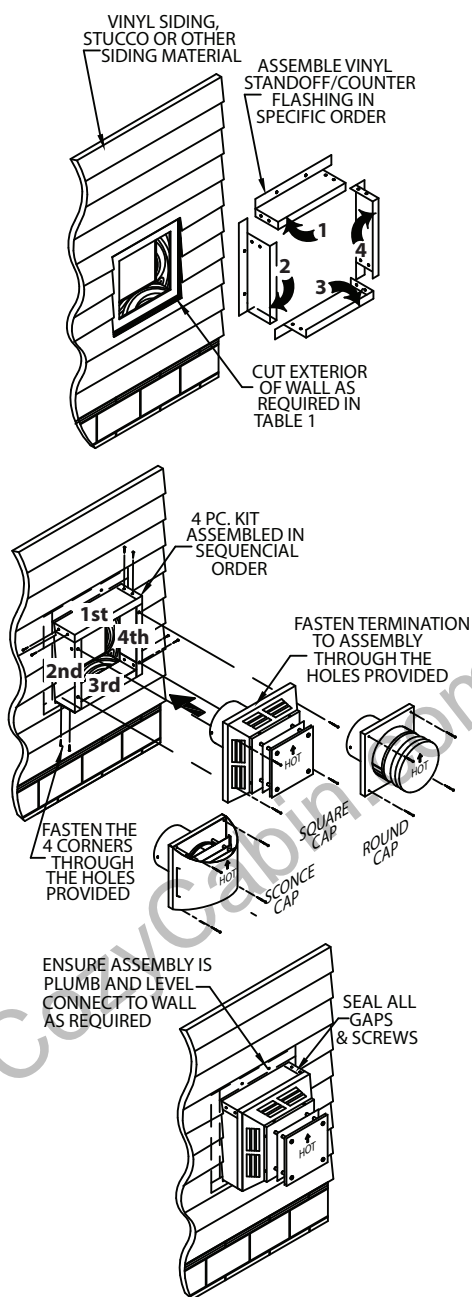

Figure 12
- Loosely assemble the four parts, in order, around the opening in the vinyl siding. Place the first of 4 pieces along the upper edge of the opening in the vinyl siding. Progressing counter-clockwise, place the left side, the bottom side, and then the right side around the opening in the siding. Refer to **Figure 12**.
- Attach the Horizontal Cap to the Vinyl Siding Standoff. Line up the holes in the cap with the holes in the Vinyl Siding Standoff and secure with the (4) long screws provided with the cap.
Installing the 1-piece counter flashing: Center the counter flashing on the wall around the framed penetration. Secure to the wall using the screws provided or other necessary connector depending on the wall material. Attach the Horizontal Cap to the Counter Flashing by lining up the holes in the cap with the holes in the Counter Flashing. Secure using the 4 long screws provided with the cap (**Fig. 12**).